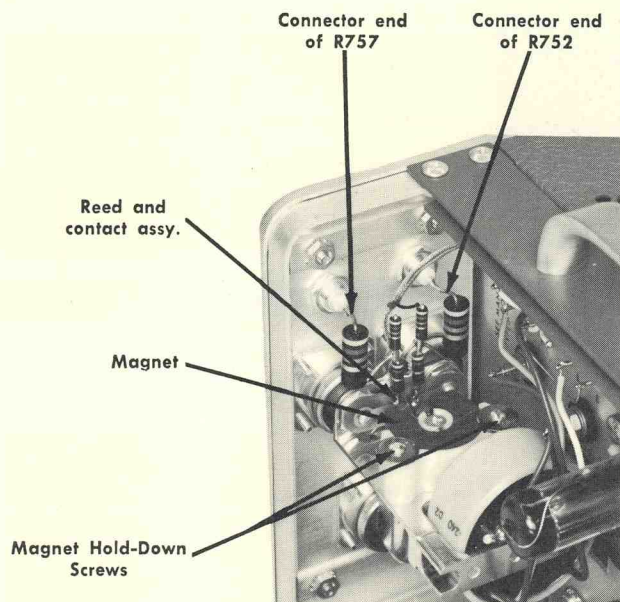

Fig. 6-7. Mercury pulser assembly. Test points for step 5h are shown also.
- (2) Loosen the magnet hold-down screws (see Fig. 6-7) and carefully move the magnet closer to or away from the reed and contact assembly. At the same time, shift the magnet slightly from side to side.
*For this check, turn off the Type 109, connect a 12" jumper lead from the +10 V test point (see Fig. 6-3) to the connector end of R752 (see Fig. 6-7) and turn on the Type 109. Check waveform amplitude and duration. Then, repeat the check by connecting the jumper lead between the same +10 V test point and the connector end of R757 (see Fig. 6-7).